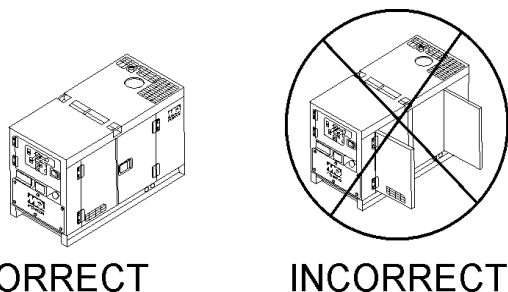

Figure 55. Engine Enclosure Doors
1. Close all engine enclosure doors (Figure 55).